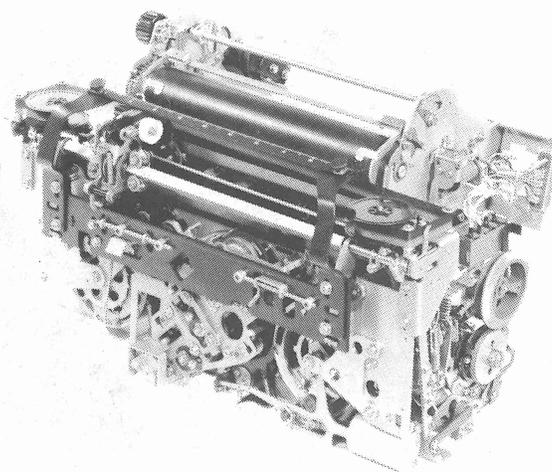
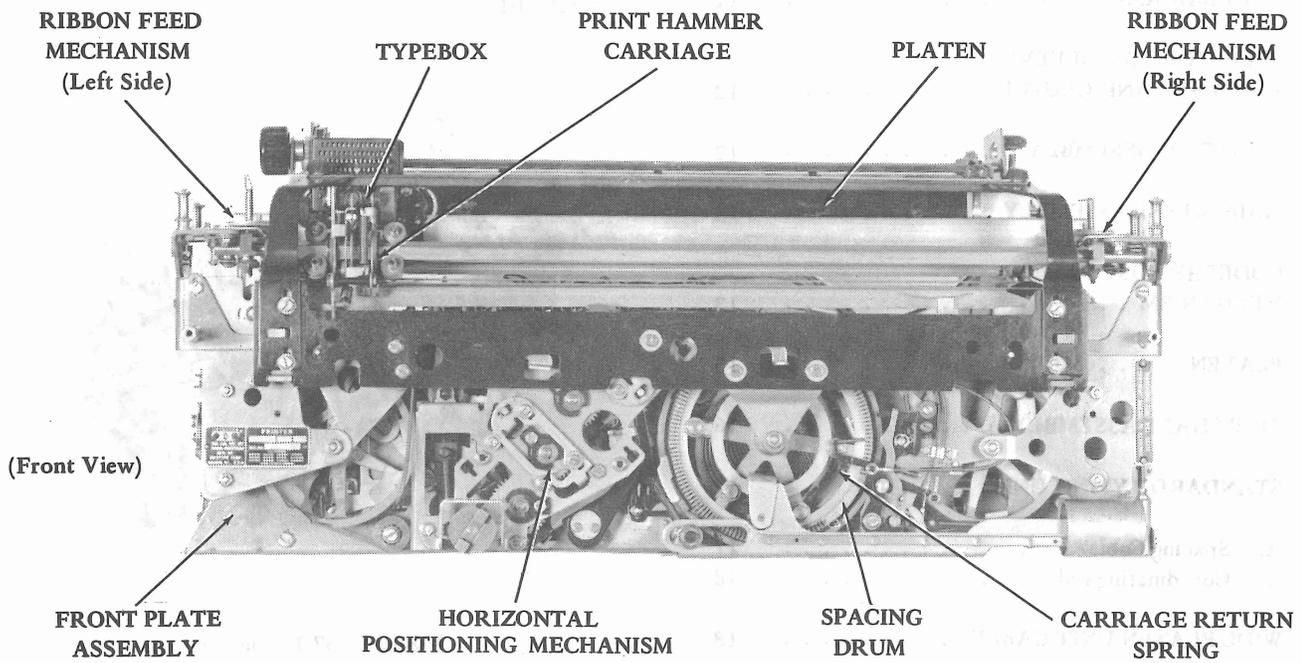

Figure 1 - 37 Typing Unit
Figure 3 - 37 Wide Platen Typing Unit (Sprocket Feed)
1.01 This section provides the procedures for the disassembly and reassembly of the principle sub- assemblies that comprise the standard 37 typing unit, code 37P003 and up – Figures 1 and 2, and the wide platen typing unit – Figure 3. Since this section is a general revision, marginal arrows normally used to show changes or additions, have been omitted.